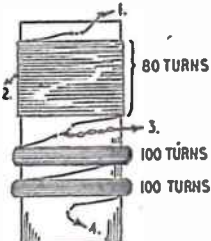

Fig. 2—Tuning Coil
28 SWG enamelled wire are used, wound closely side by side. When about forty turns have been wound on, a loop long enough to reach the one aerial terminal is twisted in the wire. This is point (2) in Fig. 2, (1) being the beginning of the winding, and (3) the end.
tube. End (3) will be two wires, as in Fig. 2.